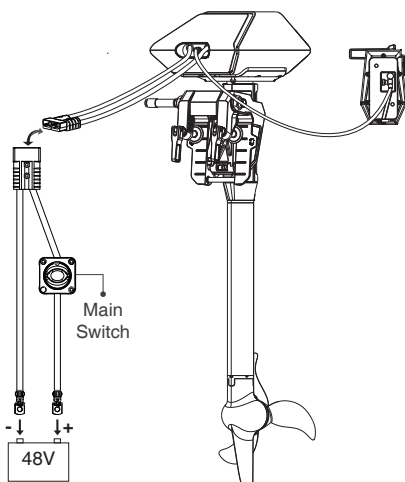
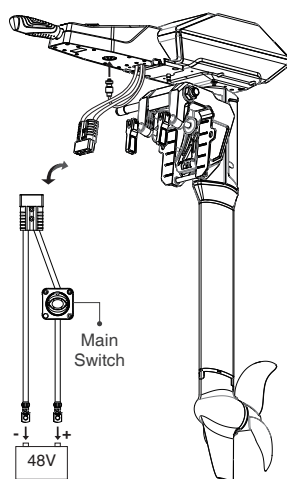

Figure 5-14
Figure 5-15
**Step2:** Connect NAVY outboard and Remote Control/Tiller Handle with a communication cable. Please refer to Figure 5-14 or Figure 5-15.